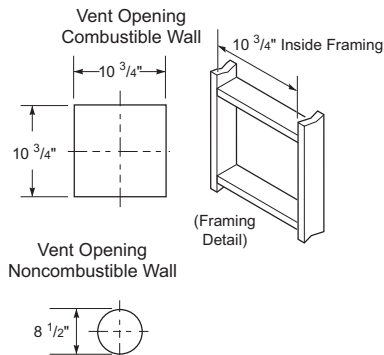
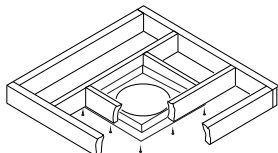

Figure 18 - Vent Opening Requirements
Figure 26 - Installing Firestop
3. Attach vent pipe assembly to fireplace using twist lock connections for rigid pipe or clamp method for flex pipe. Set fireplace in front of its permanent location to insure minimum clearances. Mark wall for a 10 ³/₄" square hole (for noncombustible material such as masonry block or concrete, a 8 ¹/₂" diameter hole is acceptable). See Figure 18, page 15. The center of hole should line up with center line of rigid vent pipe. Cut a 10 ³/₄" x 10 ³/₄" square hole through combustible exterior wall (8 ¹/₂" diameter hole if noncombustible). Frame as necessary.
1. Cut a 12 1/2" square hole in the ceiling using locating hole as a center point. Opening should be framed to 12 1/2" x 12 1/2" inside dimensions, as shown in Figure 18 on page 13, using framing lumber the same size as ceiling joists. If area above ceiling is an insulated ceiling or an attic, nail firestop from top side. This prevents loose insulation from falling into required clearance space. If area above ceiling is a living space, install firestop below framed hole. The firestop should be installed with no less than three nails per side (see Figure 26).
3. Cut a hole in roof using locating hole as a center point. (Cover any exposed open vent pipes before cutting hole in roof.) The 12 1/2" x 12 1/2" hole must be measured on the horizontal, actual length may be larger depending on pitch of roof. There must be a 1" clearance from vent pipe to combustible materials. Frame opening as shown in Figure 18 on page 15.